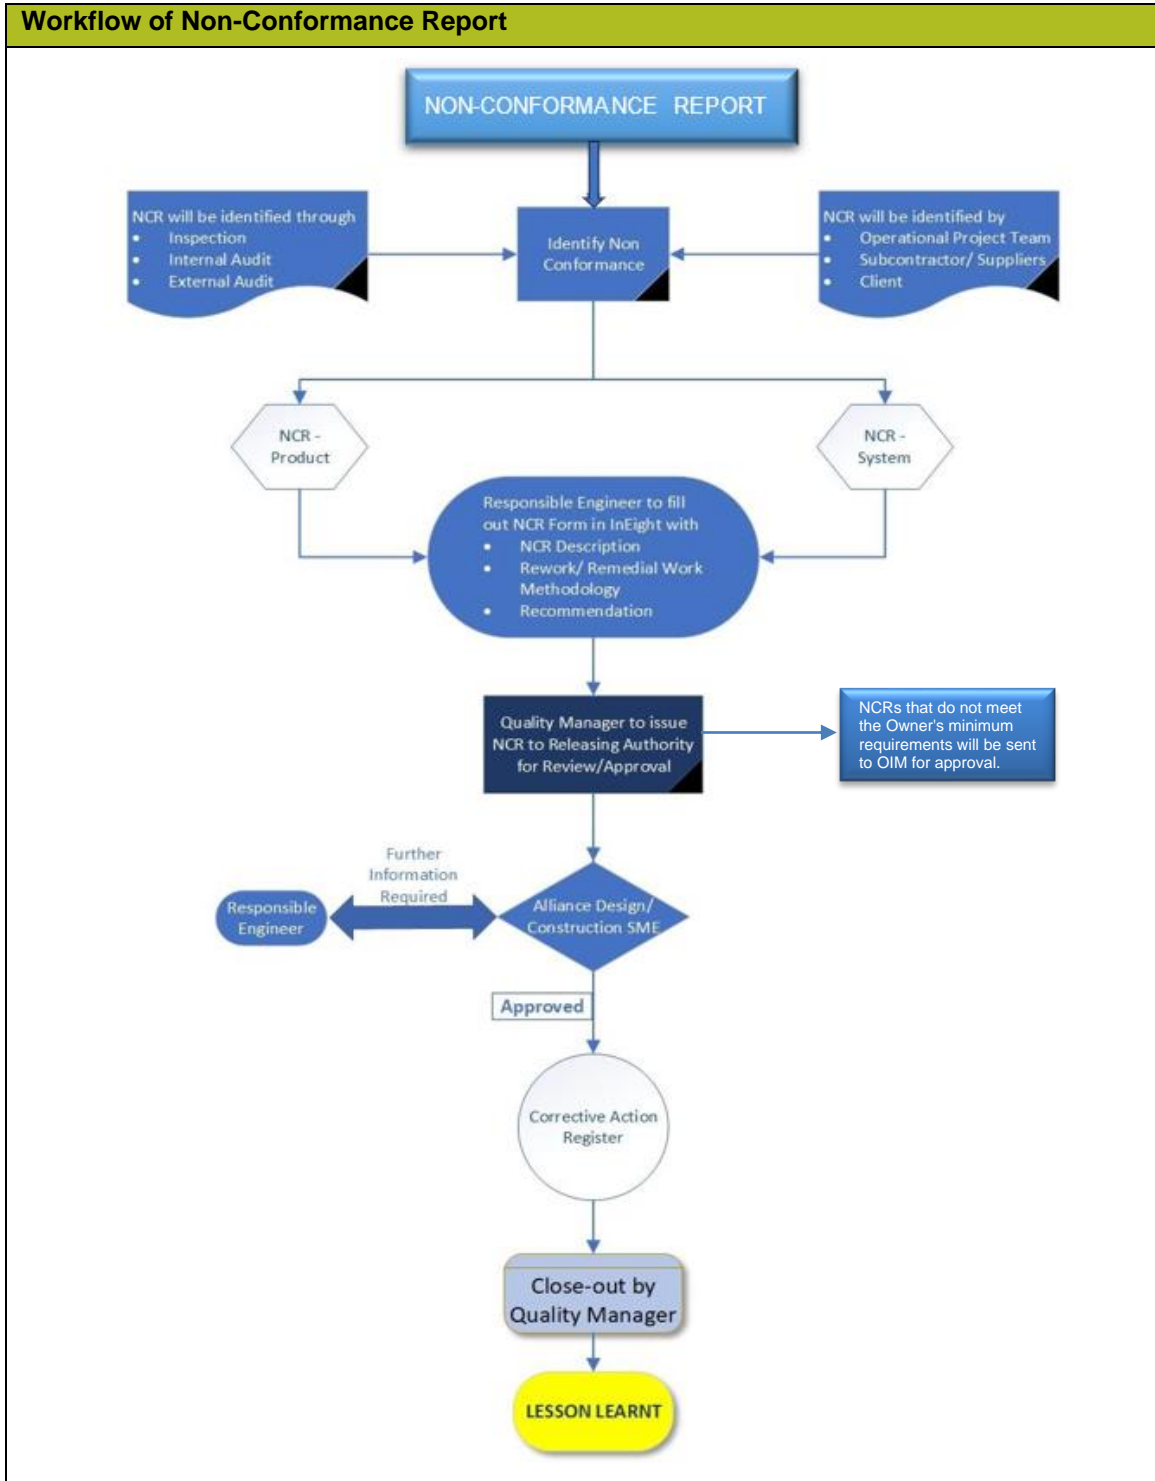

Figure 9
Workflow for the Non-Conformance Report (NCR) Has been developed below in Figure 9:
- Remedial/repair work that potentially relies on any concession to the specified quality standards, must be approved by the Representative (as per attached NCR Workflow in Figure 9) prior to execution.